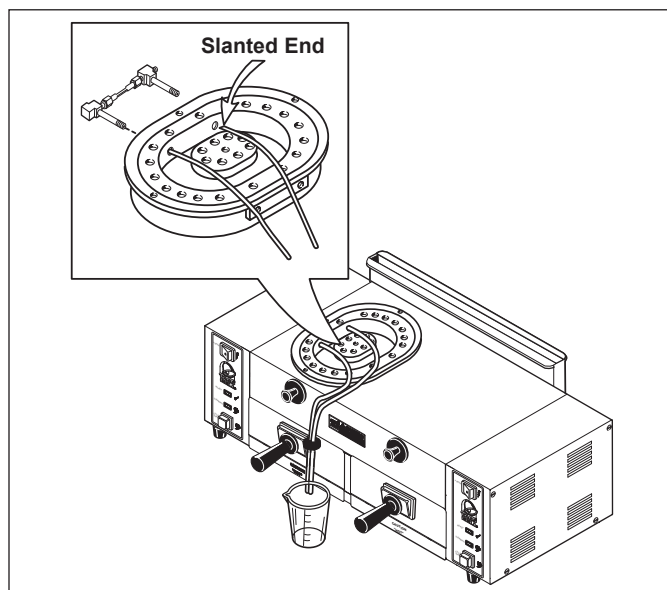

Figure 4. Calibration Tube and Cup
3. Insert the slanted end of the Calibration Tube into Steam Generator hole and push in fully (Figure 4).
4. Put other end of Calibration Tubes into the Calibration Cup (Figure 4).